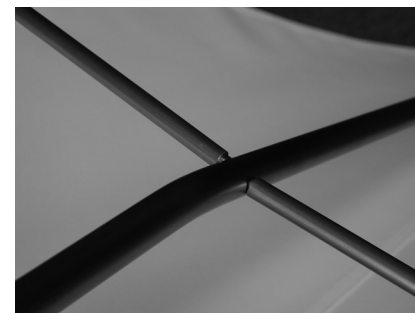

Fig. 32
- E02 Insert right cross beam [02] into mast [01] (see Fig. 32).